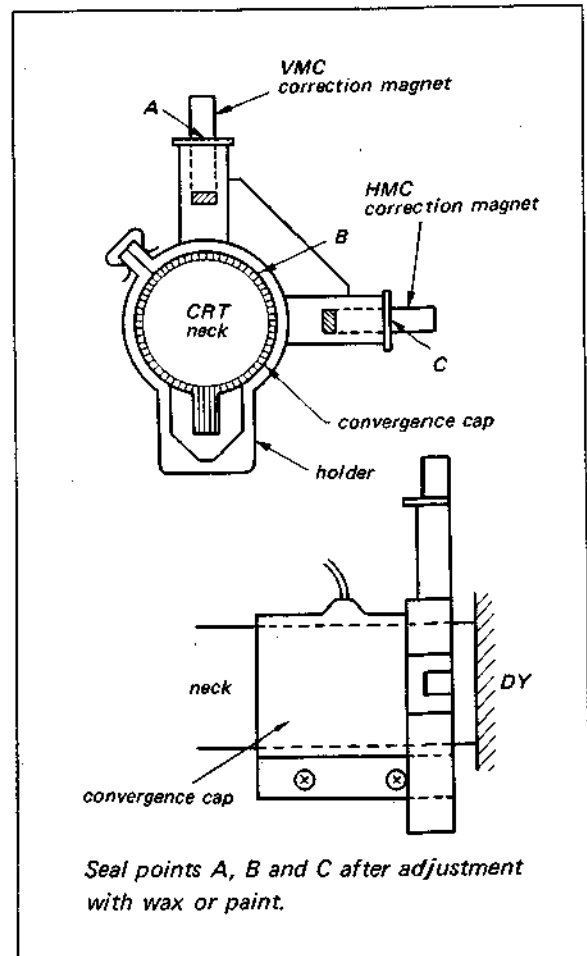

Fig. 3-6.
2. If the dots do not converge with the green and red dots at the centre of the screen, adjust the horizontal magnetic convergence control (HMC) as necessary. See Fig. 3-5 and Fig. 3-6.